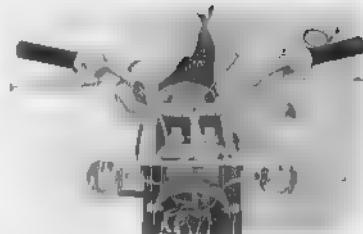

Fig. 4.6 Removing handle pipe (1) Handle pipe
5. Remove the four hex bolts mounting the handle pipe between the upper and lower holders and remove the steering handle (1) together with the control cables. (Fig. 4.6)